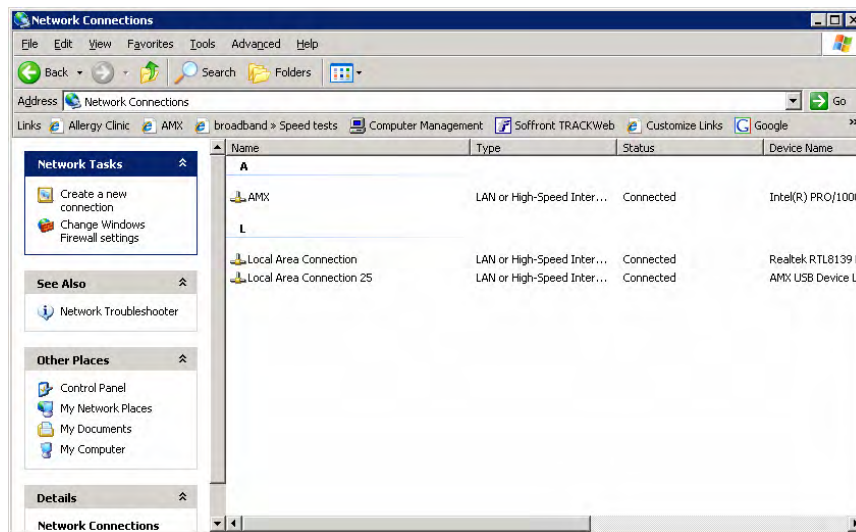

FIG. 85 Network Connections window
2. In the *Control Panel* window, click on the **Network Connections** icon to open the Network Connections window (FIG. 85)